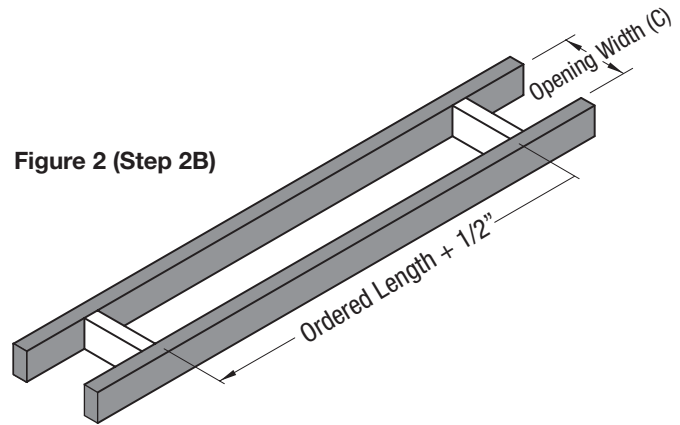

Figure 2 (Step 2B)
- B. In general, the length of the opening within the framing should be the ordered size plus $\frac{1}{2}$ " (see Figure 2) and the opening width should be the "C" dimension from the Greenheck XG-6600-11-12-1 and XG-6600-50-52-1 submittal. For convenience, we have provided the dimensional drawing (see Figure 3) and dimension table (see Figure 4) from the XG-6600-11-12-1 submittal (please note the most up-to-date information will be on the submittal).